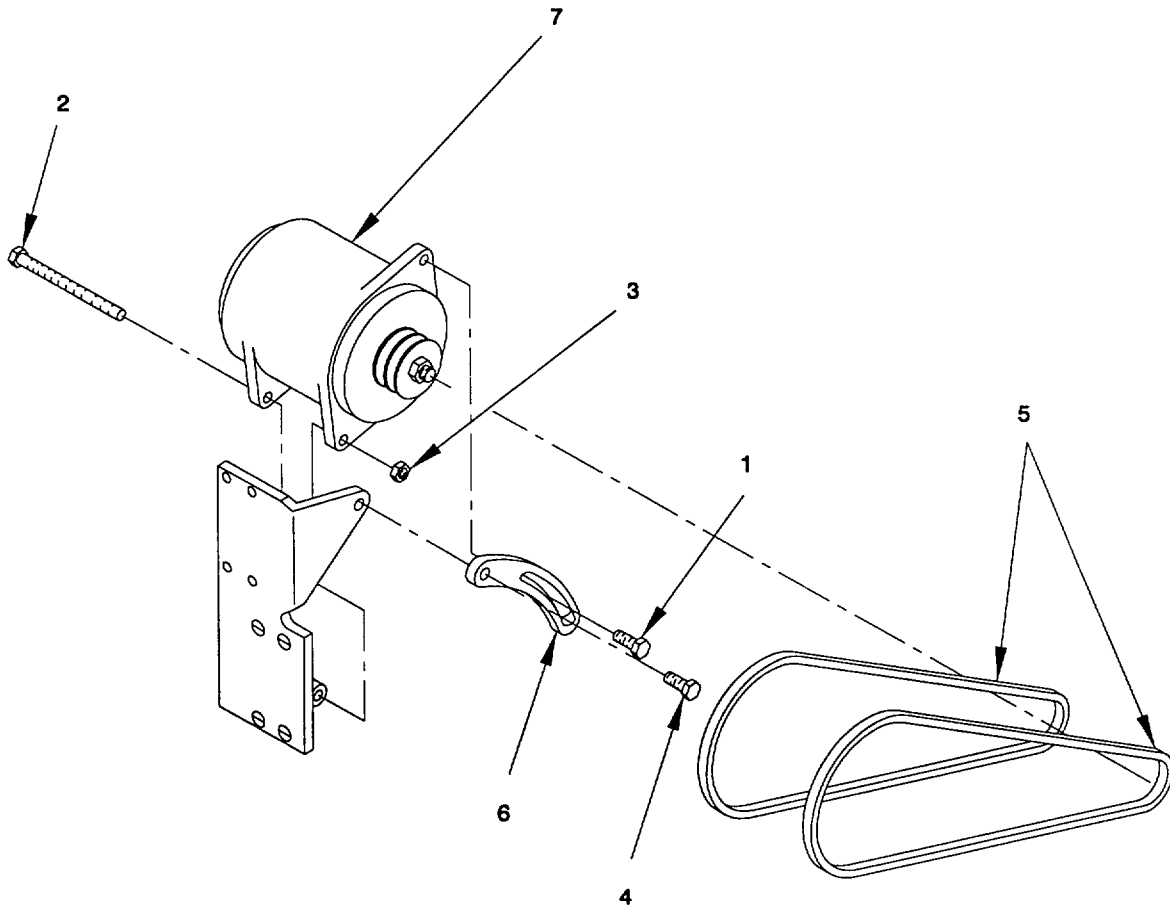

Figure 2-9. Alternator, Remove/Install
a. *Remove.* (figure 2-9)
- (1) Disconnect and tag electrical connections from alternator. Tag for installation.
- (2) Loosen capscrews (1), (2) and (4) and hex nut (3). Rotate alternator (7) to loosen the V-belts (5).
- (3) Remove the V-belts (5).
- (4) Remove capscrews (1) and (2), hex nut (3) and move adjustment link (6) out of way of alternator. Remove alternator (7).
b. *Install.* (figure 2-9)
- (1) Install new alternator (7). Move adjustment link (6) in place and secure alternator to link with capscrew (2) and hex nut (3). Start capscrew (4).
- (2) Install the V-belts (5).
- (3) Align V-belts in accordance with paragraph 2-15.
- (4) Tighten capscrews (1) and capscrews (2) and (4) to 85 ft-lbs.
- (5) Reconnect electrical wiring previously tagged and removed.